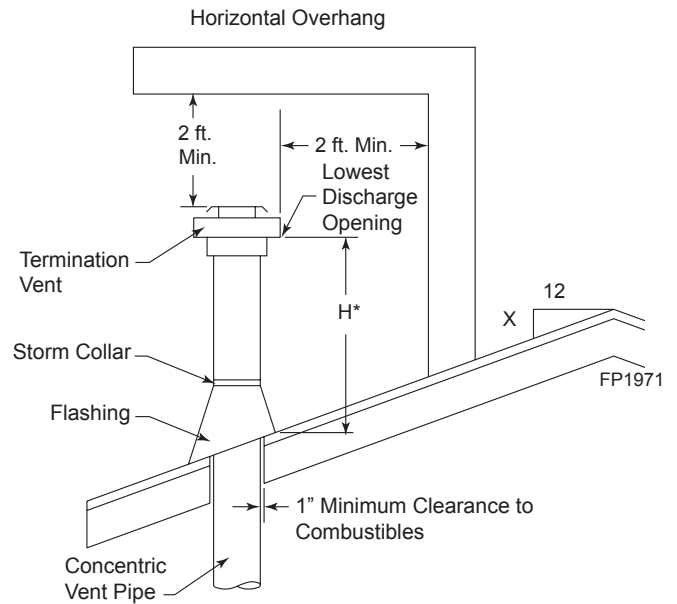

Figure 39 - Minimum Chimney Clearance
- For the minimum height of the vent above the highest point of penetration through the roof refer to *Page 23, Figure 39*.